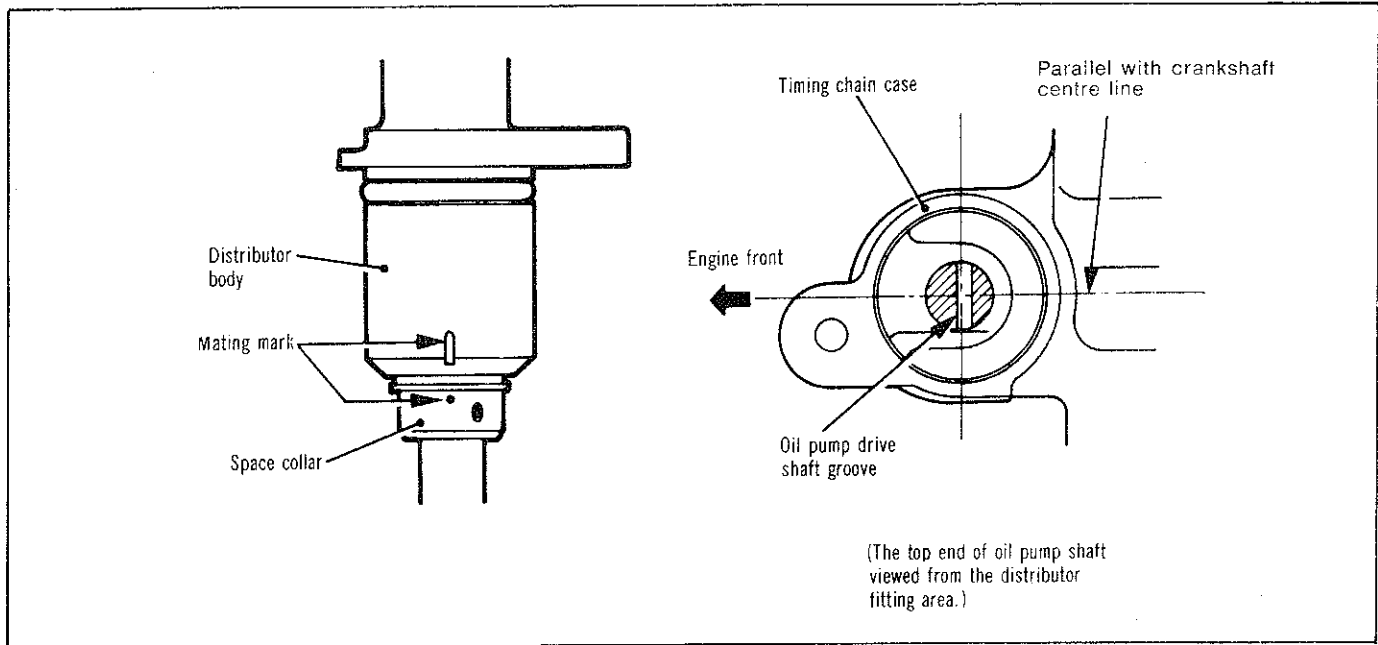

Fig. 6—Distributor alignment marks (chain drive camshaft engine)
- (1) Ensure the crankshaft is positioned at T.D.C. with No. 1 piston on compression stroke.
- (2) Using a screw driver rotate the oil pump drive to the position shown in Fig. 6, i.e. the larger off-set facing the front of the engine.
- (3) Align the distributor body and spacer collar mating marks and install the distributor ensuring that the distributor shaft lug fits snugly into the oil pump drive groove. Rotate the crankshaft slightly if distributor installation is difficult, install retaining nuts.
- (4) Adjust breaker point gap if necessary.
- (5) Install distributor rotor and cap.
- (6) Connect high tension leads and distributor primary leads.
- (7) Connect vacuum hose ensuring it is firmly positioned.